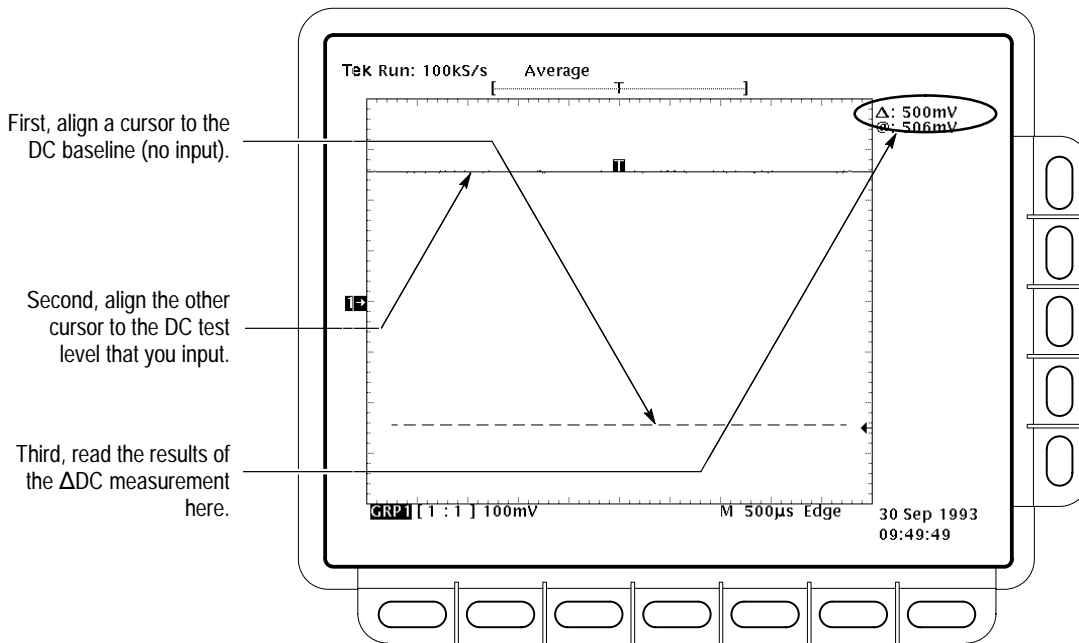

Figure 4–7: Measurement of DC Gain Accuracy
- f. Read the measurement results from the delta (Δ :) readout, not the absolute (@:) readout. (See Figure 4–7.) Check that the Δ : readout on screen is between 480 mV and 520 mV